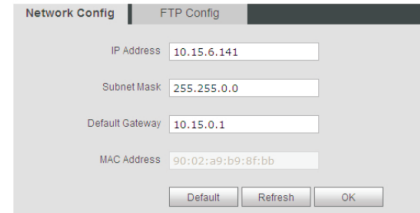

Figure 3-3
- Step 4** Select System Config>Network Config, set VTO IP, Subnet Mask and Default Gateway. See Figure 3-3.